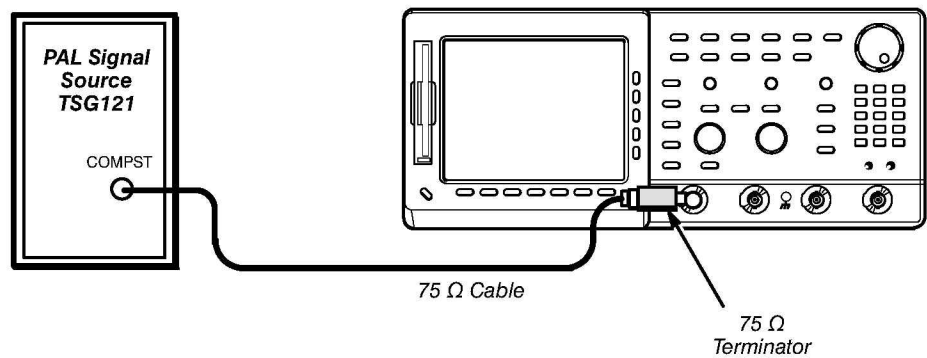

Figure 4-35: Line Count Accuracy Test Hookup
- Connect a composite output signal from the rear of the PAL signal source (labelled **COMPST** on the TSG 121) to the CH1 input through a 75 Ω cable and a 75 Ω terminator (see Figure 4-35).